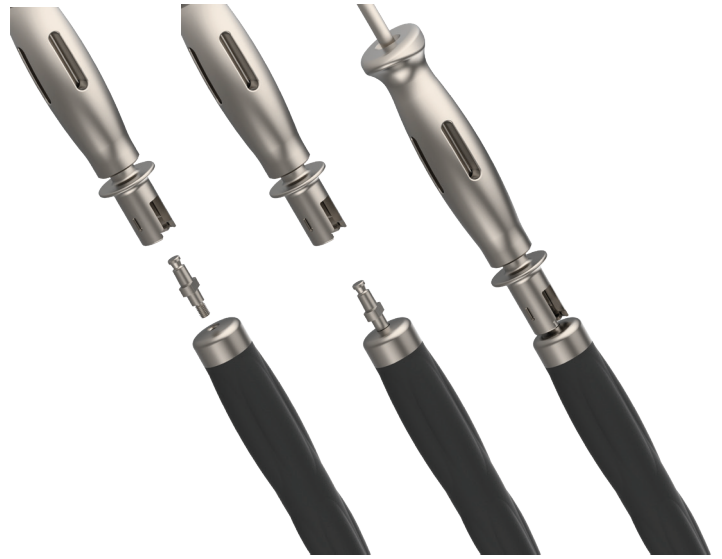

Figure 6b
- Option B. Insert a hudson adapter (330H0005) to the inline handle (300H0009), and connect the slap hammer to remove the trial (Figure 6b).